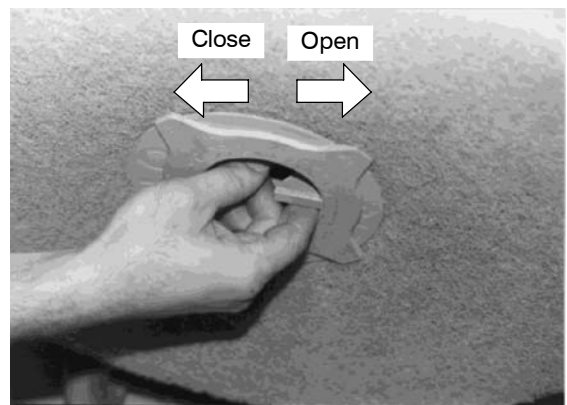

FIG. 3
3. Remove the plastic centerlock from the pad driver by turning it clockwise. Position the pad accurately centered on the pad driver, and screw the centerlock in place counter-clockwise until it is tight (Figure 3).